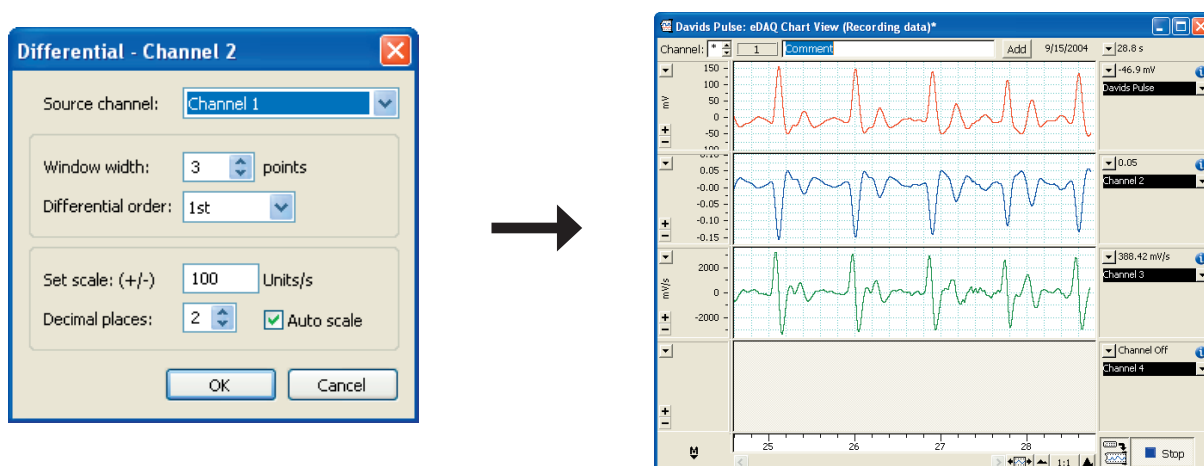

Figure 25. Differentiated pulse data on Channel 3.
4. The collected pulse data will be differentiated (Figure 25)